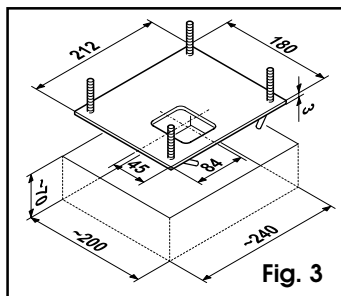

Fig. 3
1) Dig out a hole for the base plate as shown in fig. 3.
2) Lay the flexible pipes for connection cables between operator, accessories, and power supply. The flexible pipes must protrude by approximately 3 cm from the opening on the plate (fig. 3).